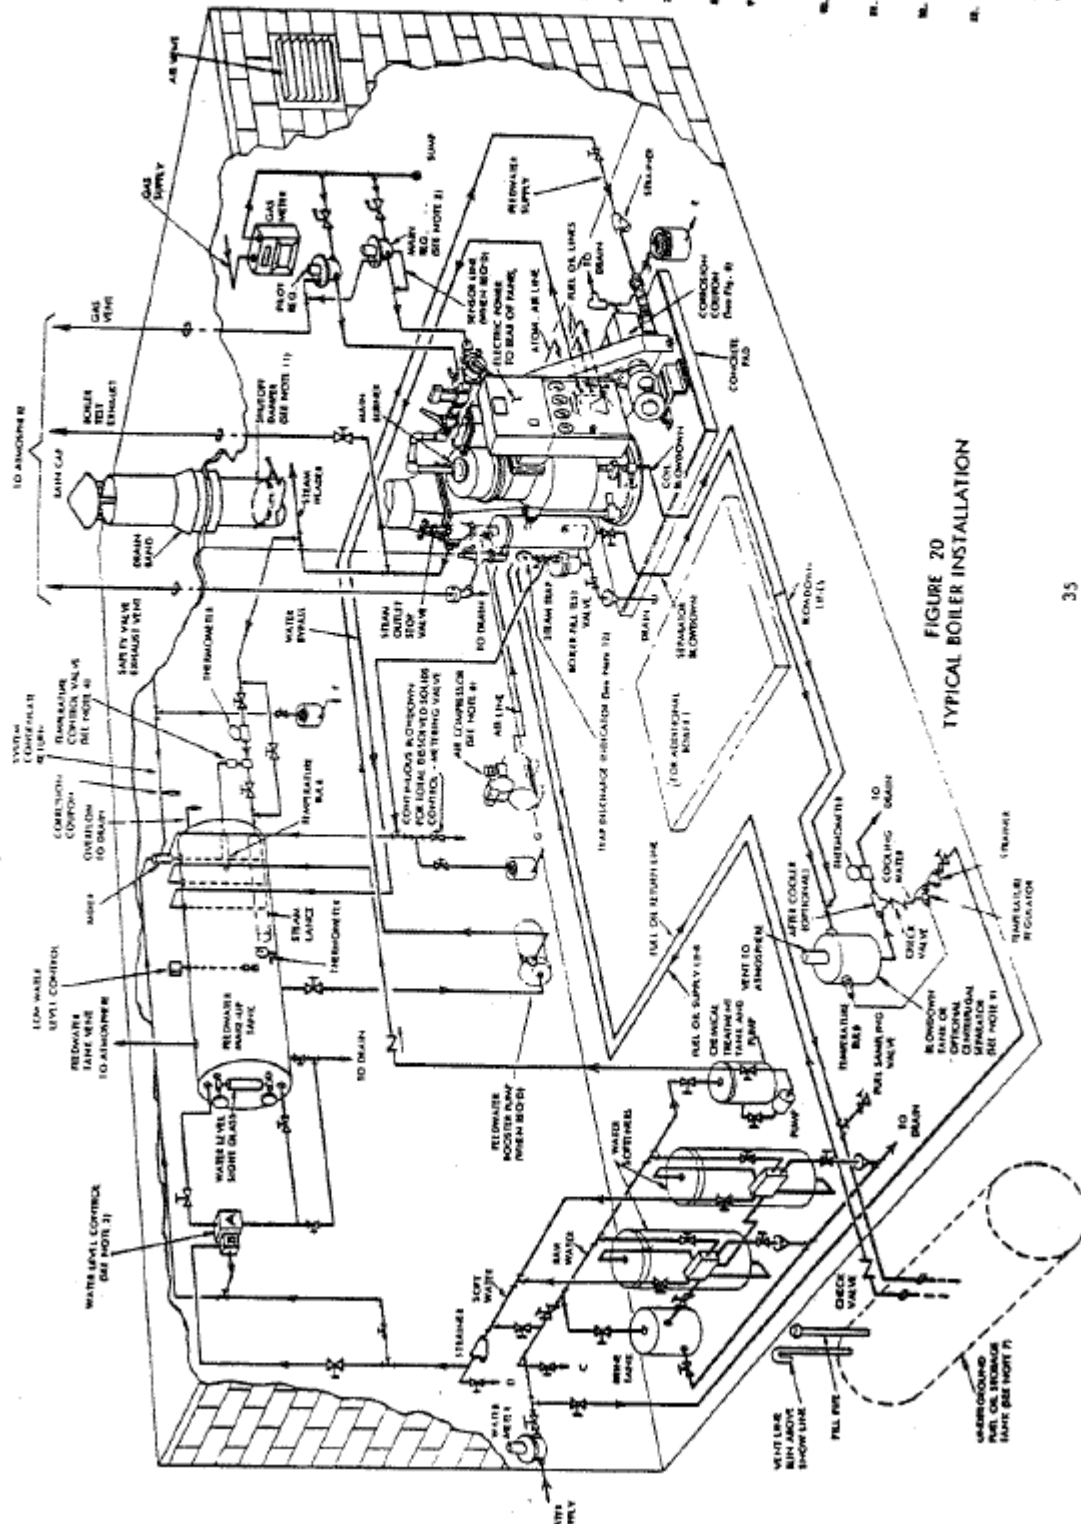

FIGURE 20
16.1.5 In some installations it has been advantageous to install a tee, a sump leg, and a metering type shutoff valve in the line from the boiler steam separator trap to the feedwater supply tank. When feedwater total dissolved solids control is troublesome, "bleeding" away water through the metering valve can be an advantageous alternative to increasing the frequency of separator blowdown. (See Figure 20)